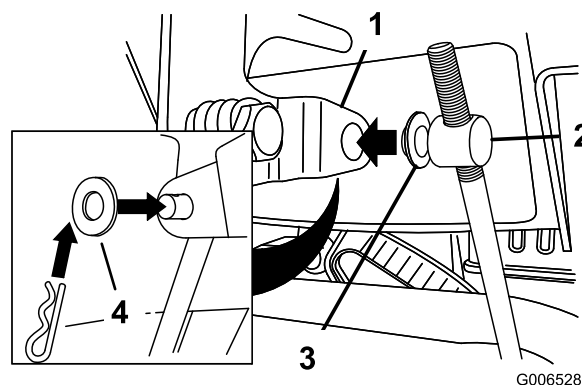

Figure 5
3. Remove the hairpin cotter and the outer washer from the trunnion on the upper end of the speed control rod (Figure 5).
Note: To make installation easier, leave the flat washer on the trunnion (Figure 5).
6. Lift up on the speed control rod and insert the trunnion into the hole in the speed selector lever (Figure 5).
- B. Disconnect the trunnion from the speed selector lever (Figure 5).
- C. Turn the trunnion downward (clockwise) on the speed control rod (Figure 5).
- D. Connect the trunnion to the speed selector lever (Figure 5).